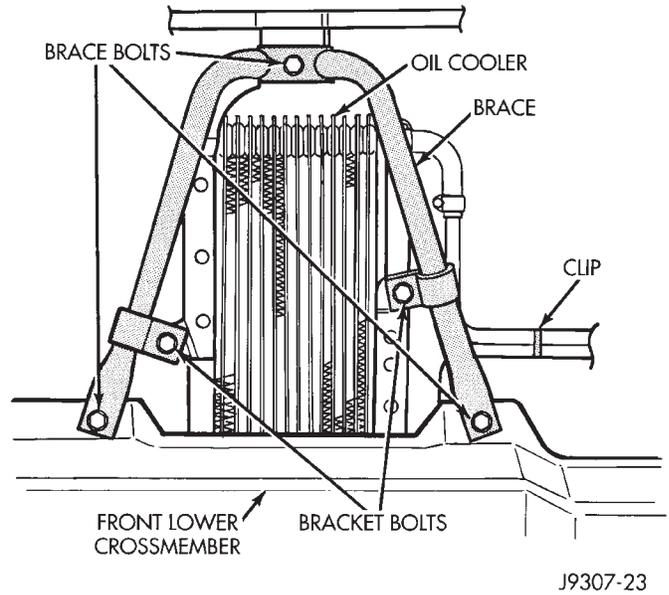

Fig. 23 Oil Cooler Mounting Brackets—Typical
- (1) Disconnect negative battery cable at battery.
- (2) Remove the grill. Refer to Group 23, Body.
- (3) Remove the bumper fascia. Refer to Group 23, Body.
- (4) Remove the grill opening reinforcement panel. Refer to Group 23, Body.
- (5) Remove two bracket bolts and three brace bolts (Fig. 23).
- (6) Remove the retaining clip from the cooler lines (Fig. 23).
- (7) Place a drain pan under the cooler.
- (1) Position cooler to vehicle.
- (2) Install lower hose and hose clamp to cooler. Hose clamp screws must be facing towards rear of vehicle. Tighten clamp to 2 N·m (18 in. lbs.) torque.
- (3) Install upper hose and hose clamp at cooler. Hose clamp screws must be facing towards rear of vehicle. Tighten clamp to 2 N·m (18 in. lbs.) torque.
- (4) Install brace and mounting bracket bolts (Fig. 23).
- (5) Connect negative battery cable to battery.
- (6) Add necessary transmission fluid. Refer to Group 21, Transmissions. Start engine and check for leaks.
- (7) Install grill opening reinforcement panel, bumper fascia and grill. Refer to Group 23, Body.